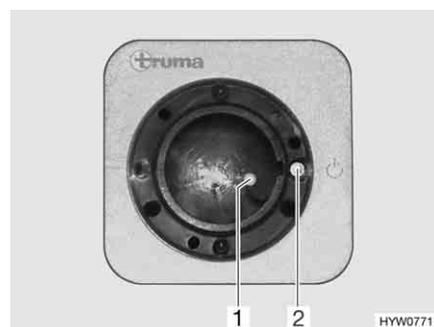
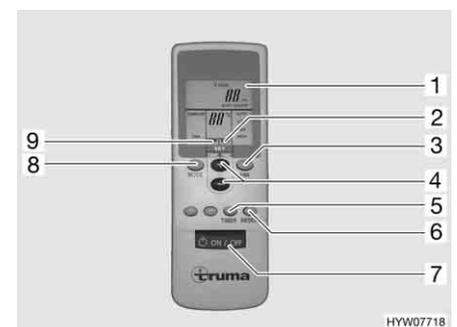

Fig. 137 Receiver
Fig. 138 Remote control
- Switch on the remote control with the switch (Fig. 138,7). The green indicator lamp (Fig. 137,1) indicates cooling mode.
- Set the desired operating mode with the key (Fig. 138,8).
- Set the desired fan output and room temperature with the keys (Fig. 138,3 and 4) if necessary. The arrow (Fig. 138,9) indicates the selected setting mode.
- ▷ An additional key switch (Fig. 137,2) is on the receiver, which can be used to switch the air conditioning unit off or on without remote control. If the air conditioning unit is switched on by means of this key switch, the operating mode set last on the remote control is automatically selected.
- To switch off, press the key (Fig. 138,7) on the remote control again.
- To program, switch on the air conditioning unit with the key (Fig. 138,7) on the remote control.
- Set the desired operating mode and room temperature with the keys (Fig. 138,8, 3 and 4).
- Use the key (Fig. 138,5) to select the desired function (Fig. 138,1):
- Use the keys (Fig. 138,4) to select the desired switching time (1 to 15 hours). The arrow (Fig. 138,2) flashes and indicates the setting mode.
- ▷ The key (Fig. 138,6) is used to send the settings of the remote control repeatedly to the receiver.